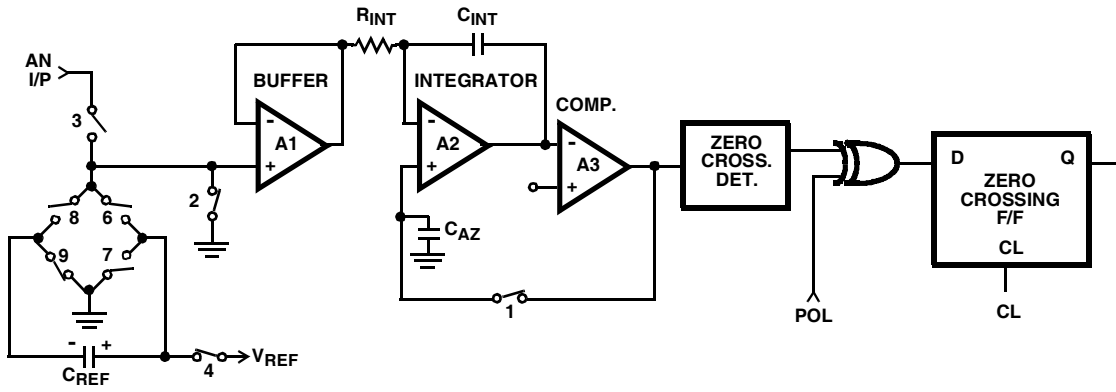

FIGURE 6A. PHASE I AUTO-ZERO
**Auto-Zero Phase I (Figure 6A)**